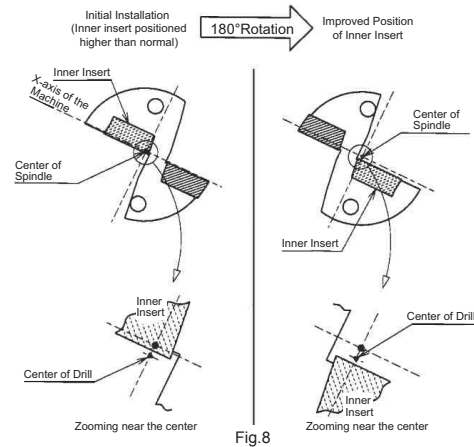

Fig.8
- ① Install the drill rotated 180°. Most problems will be solved by this method. (Fig.8)